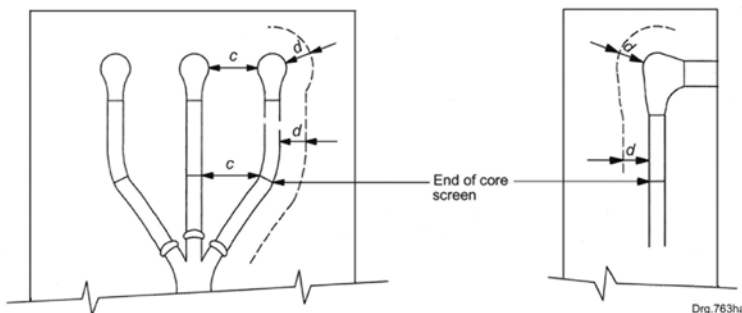

Figure 9: Shrouded termination (Type 2).
- Type 2 termination - lugs connected onto bushings or post insulators with a shrouded (unscreened) insulation termination, see *Figure 9*